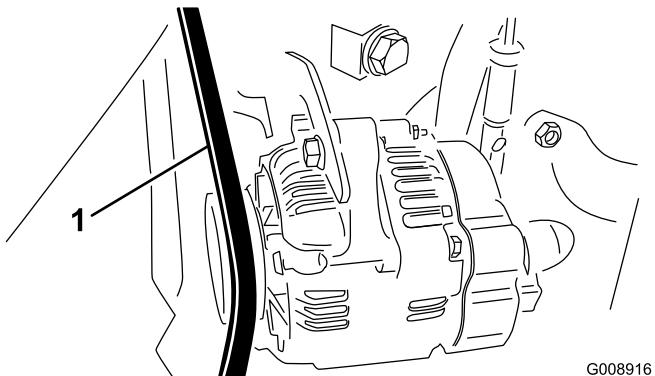

Figure 66
2. Check the tension by depressing the alternator/fan belt midway between the alternator and crankshaft pulleys with 22 lb (30 N·m) of force (Figure 66).